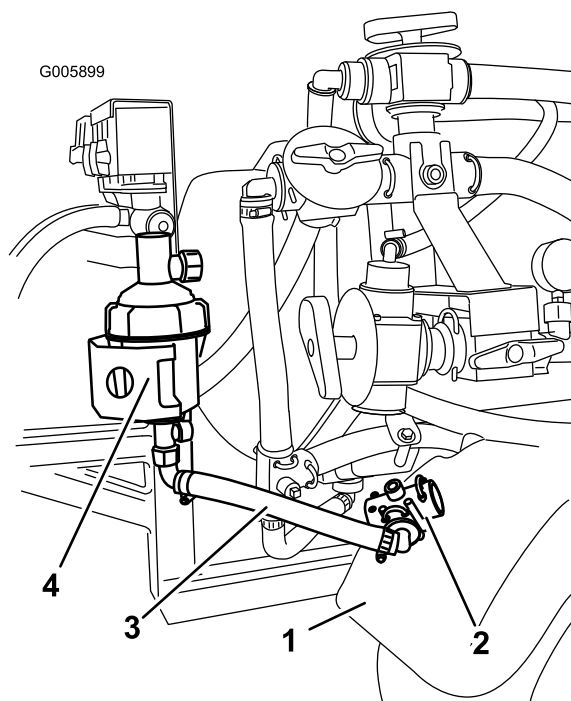

Figure 52
6. Locate the filter flush hose coming from the bottom of the pressure filter assembly installed previously. Install the open 90 degree fitting from this hose to the middle connection of the tee (Figure 52). Use a small retainer fork to secure the connection. Leave the tee fitting laying on the fender of the right, rear wheel.